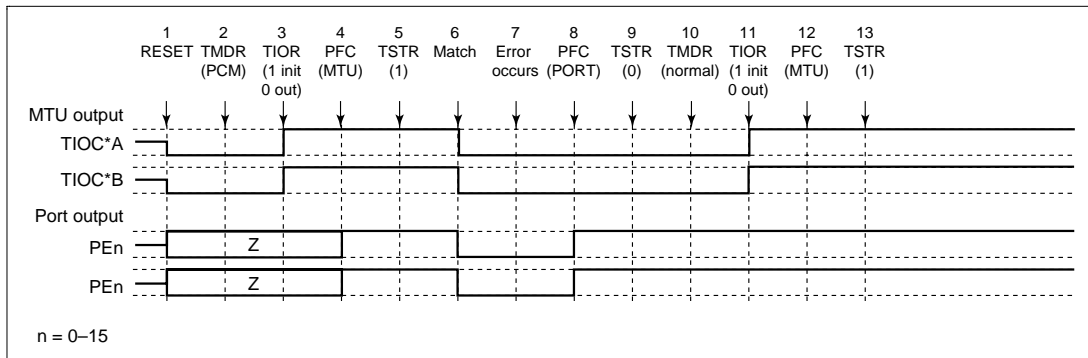

Figure 10.73 Error Occurrence in Phase Counting Mode, Recovery in Normal Mode
(13) Operation when Error Occurs during Phase Counting Mode Operation, and Operation is Restarted in Normal Mode: Figure 10.73 shows an explanatory diagram of the case where an error occurs in phase counting mode and operation is restarted in normal mode after re-setting.
1 to 9 are the same as in figure 10.73.
- 1 to 9 are the same as in figure 10.73.